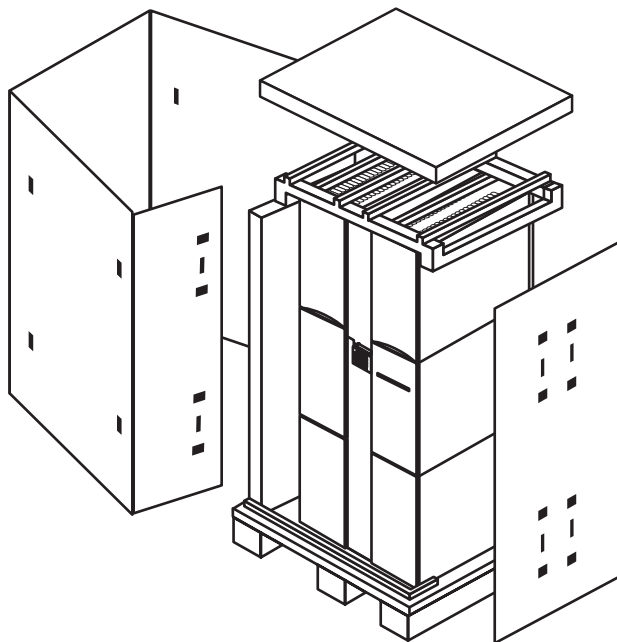

Figure 3: Remove the cardboard pieces
3. Lift the cardboard box top cover straight up and off of the main carton (see Figure 3).
4. Unwrap the cardboard box from around the jukebox (see Figure 3).
5. Remove the foam cap from the top of the jukebox (see Figure 3).